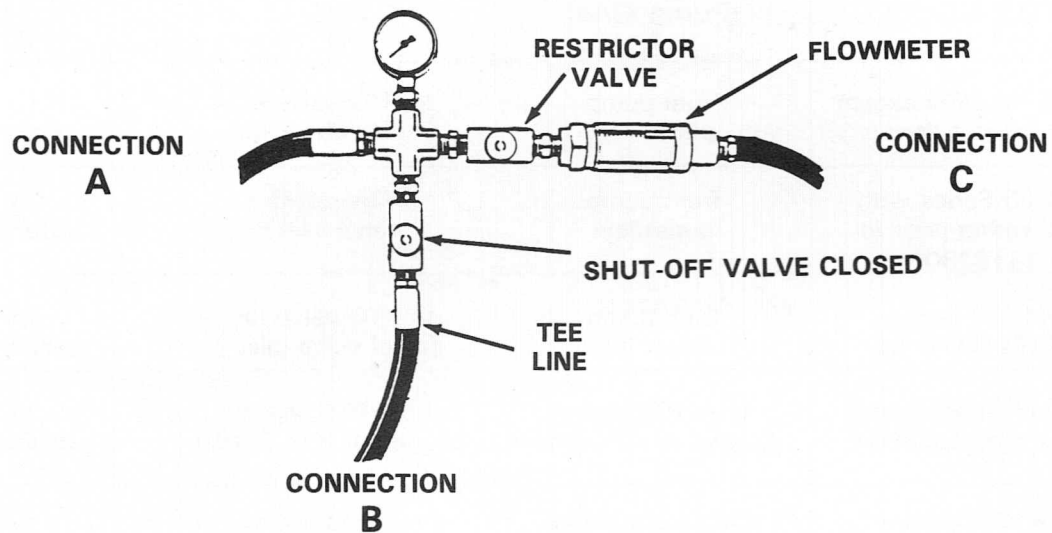

Figure 3 - Standard Flowmeter Connections with High Pressure Tee and Shut-off Valve
2. For connection to standard flowmeter which has fittings, shutoff valve and three line connection. With this configuration, tester can perform same tests as Case/Ingersoll Hydra-Sleuth. This tester is shown in Figures 3 & 7.